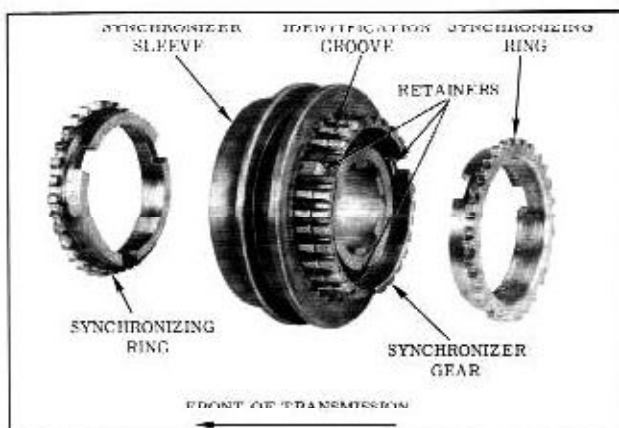
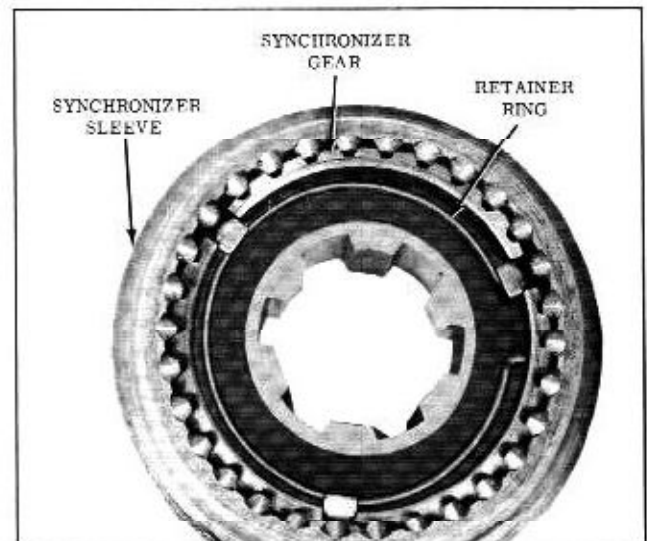

Fig. 10-16 Synchronizer Assembly
Fig. 10-17 Synchronizer Retaining Ring
17. Place 3 synchronizer retaining plates on synchronizer gear and install in sleeve. (Fig. 10-16) Install wire retaining rings. (Fig. 10-17)
Refer to Fig. 10-16, and step 24 for disassembly.
Assemble synchronizer as described in step 17 of the transmission assembly procedure, also refer to Fig. 10-17.